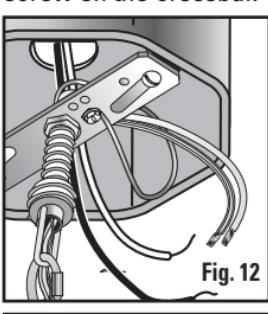

Fig. 12
Trim the excess fixture wire, leaving 6" (16.2 cm) for connections (see #11) (Fig. 12). Split the fixture wire into two (2) separate leads, and strip off 1/2" of the insulation.